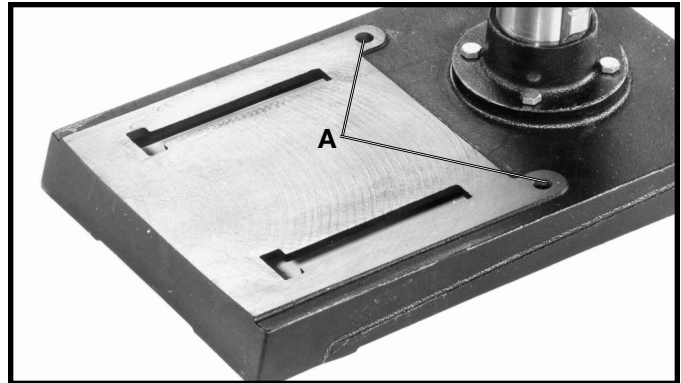
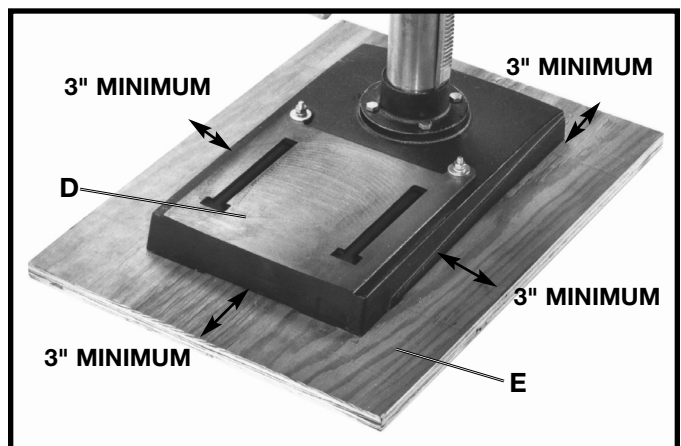

Fig. 3
Fig. 5
1. If your drill press is to be used in a permanent location, the drill press base must be secured to the supporting surface with fasteners through the two mounting holes, (A) Fig. 3, in the drill press base.
3. Place the drill press base (D) Fig. 5, centered on the supporting surface (E).
**⚠ WARNING** MAKE SURE THERE IS AT LEAST 3" ON ALL FOUR SIDES OF THE BASE AS SHOWN IN FIG. 5.
4. Drill two 3/8" diameter holes through the holes (A) Fig. 3 in the drill press base, and in the supporting surface (E) Fig. 5.